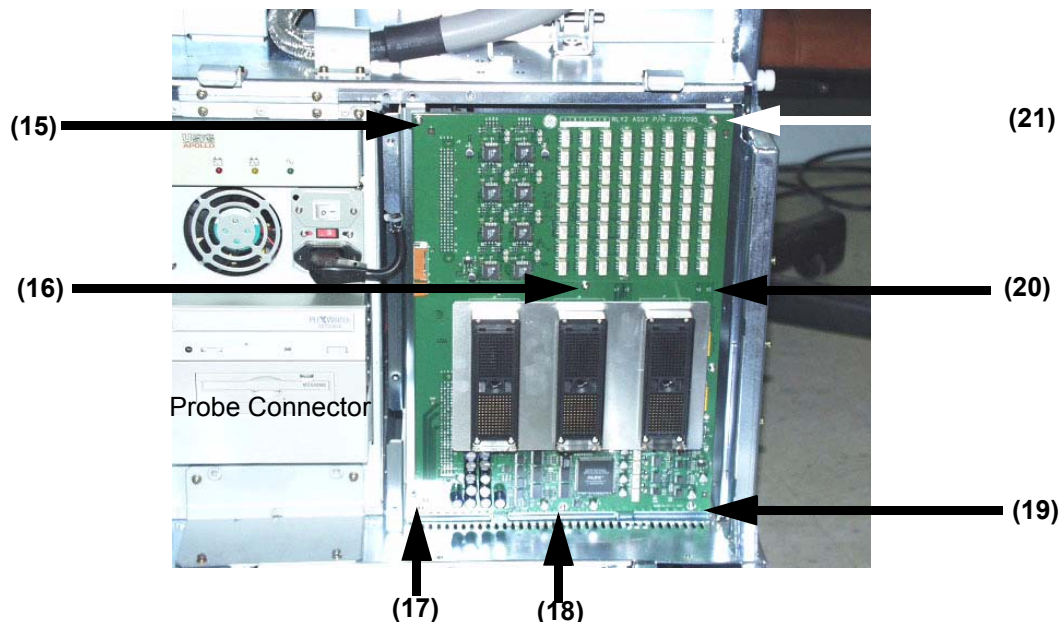

Figure 8-90 Unscrew 7 screws to remove the RLY Board
**NOTE:** Bind head screw is used at the location number (8).
- 5.) Unscrew seven (7) screws (15-21) to remove the RLY Board. Refer to Figure 8-90 on page 8-68 .